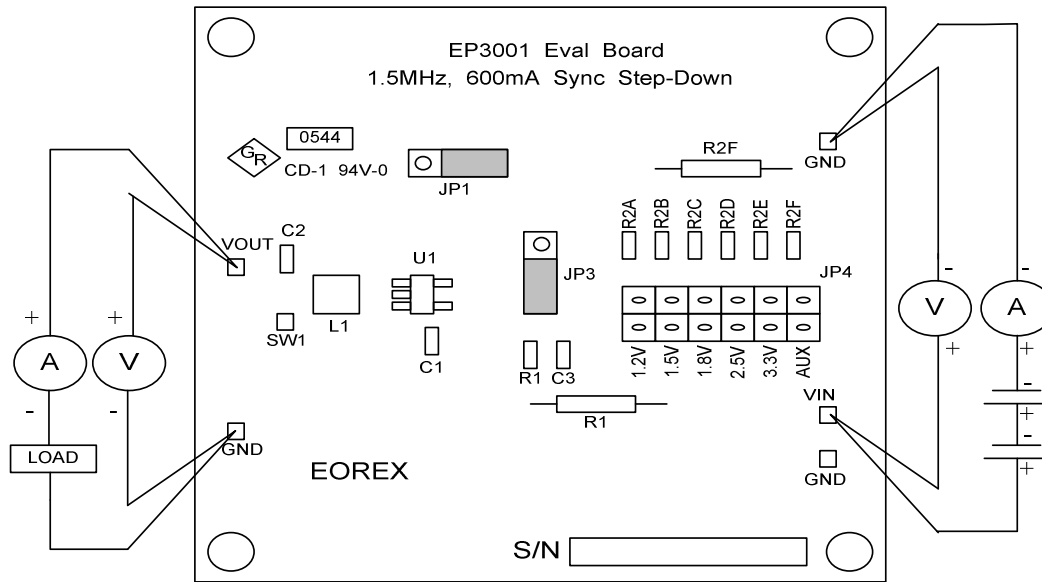

Figure 1 EP3001 Evaluation Board Diagram
3. Connect the required measurement equipments, refer to Figure 1.
4. Connect the required measurement equipments, refer to Figure 1.